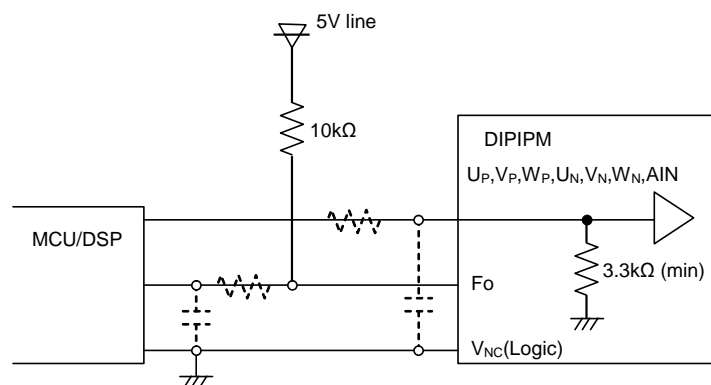

Fig.3-1-6 Control input connection
- (1) The wiring of each input should be patterned as short as possible. If the pattern is long and the noise is imposed on the pattern (e.g. Fig3-1-6), it may be effective to insert RC filter.
- (2) There are limits for the minimum input pulse width in the DIIPM. The DIIPM might make no response or delayed response, if the input pulse width (both on and off) is shorter than the specified value. (Table 3-1-2)